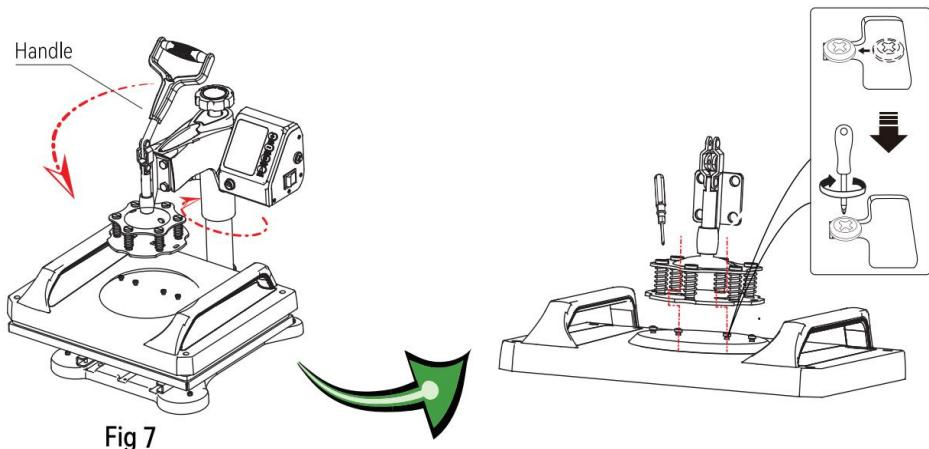

Fig 7
7. Rotate the head back to the original position and gently press down the handle so that the cup cap of the cup head screw above the pressure platen snaps into the slot and then lock it in place with a screwdriver (as shown in fig 7)